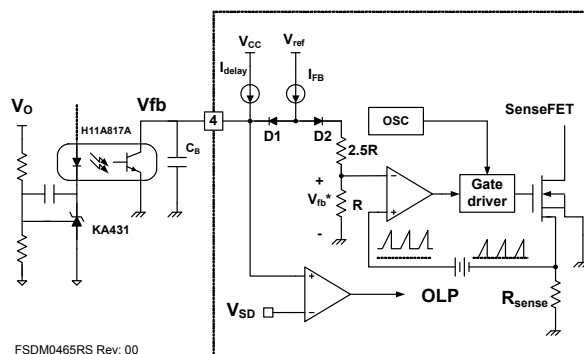

Figure 18. Pulse width modulation (PWM) circuit
2. Feedback Control: FSDM0465RS employs current mode control, as shown in Figure 18. An opto-coupler (such as the H11A817A) and shunt regulator (such as the KA431) are typically used to implement the feedback network. Comparing the feedback voltage with the voltage across the R_{sense} resistor plus an offset voltage makes it possible to control the switching duty cycle. When the reference pin voltage of the KA431 exceeds the internal reference voltage of 2.5V, the H11A817A LED current increases, thus pulling down the feedback voltage and reducing the duty cycle. This event typically happens when the input voltage is increased or the output load is decreased.
2.1 Pulse-by-Pulse Current Limit: Because current mode control is employed, the peak current through the SenseFET is limited by the inverting input of PWM comparator (V_{fb}^*) as shown in Figure 18. Assuming that the 0.9mA current source flows only through the internal resistor ($2.5R + R = 2.8k\Omega$), the cathode voltage of diode D2 is about 2.5V. Since D1 is blocked when the feedback voltage (V_{fb}) exceeds 2.5V, the maximum voltage of the cathode of D2 is clamped at this voltage, thus clamping V_{fb}^* . Therefore, the peak value of the current through the SenseFET is limited.